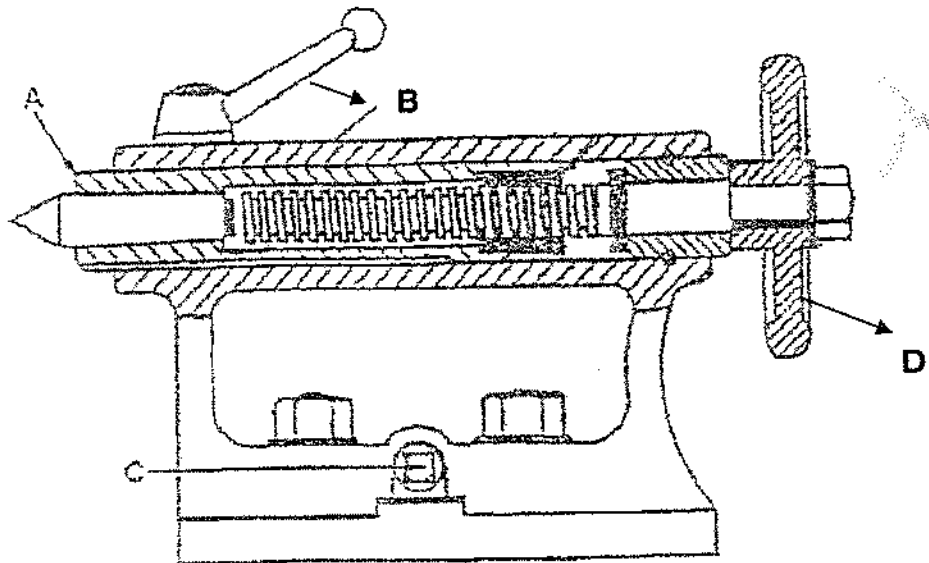

FIGURE 4
- 13.2 Study FIGURE 4 below and label the parts of the tail stock of a centre lathe by writing down the names next to the letters (A–D) in the ANSWER BOOK